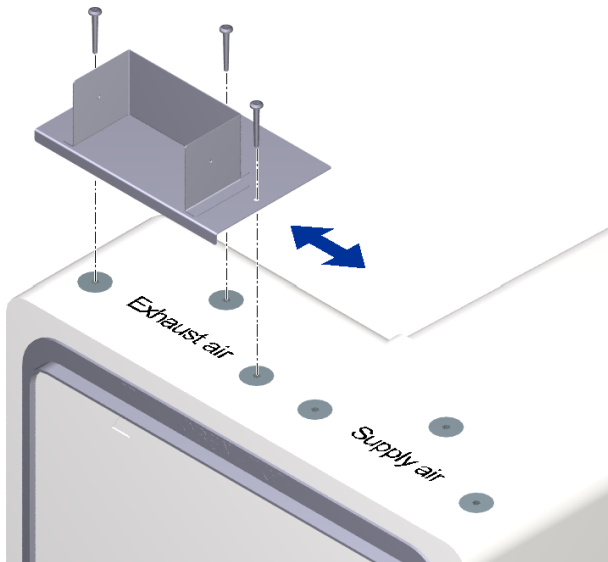
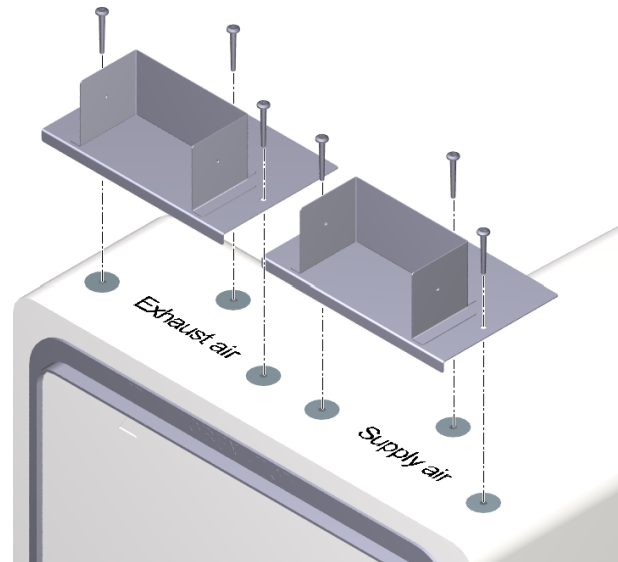

Fig. 4: M-WRG-M/MB-FK1, Fixing the fixing plate for exhaust air **or** supply air
Fig. 5: M-WRG-M/MB-FK2, Fixing the fixing plates for exhaust air **and** supply air
- ▶ Use the Spax screws to fix the fixing plate (see Fig. 4 and Fig. 5).